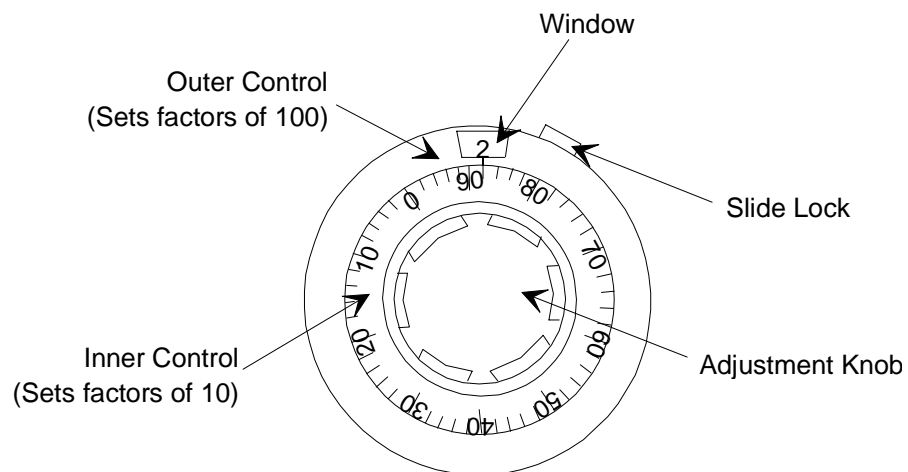

Figure 9: Scaling Control Potentiometer - Example Setting
- Continue turning the adjustment knob until the line on the inner control which represents “88” is aligned with the vertical line beneath the window, as shown in Figure 9.